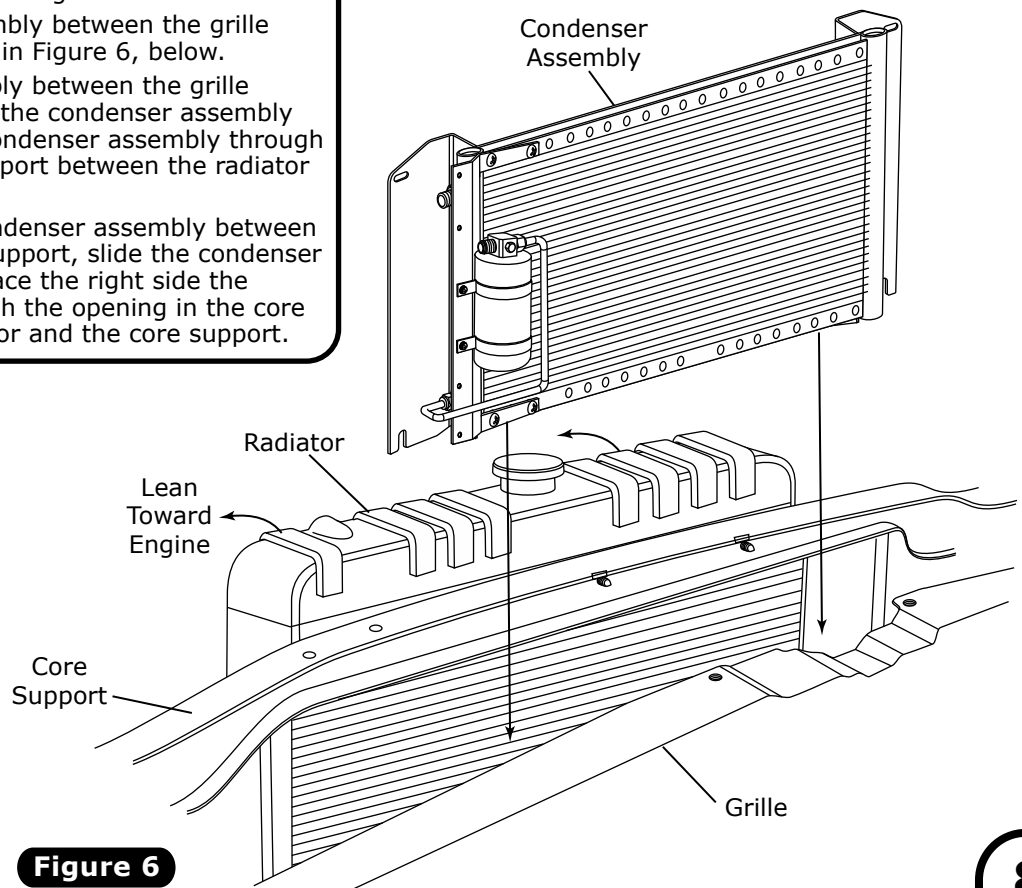

Figure 6
1. Remove the (4) radiator mounting bolts (retain).
3. Install the condenser assembly between the grille and core support as shown in Figure 6, below.